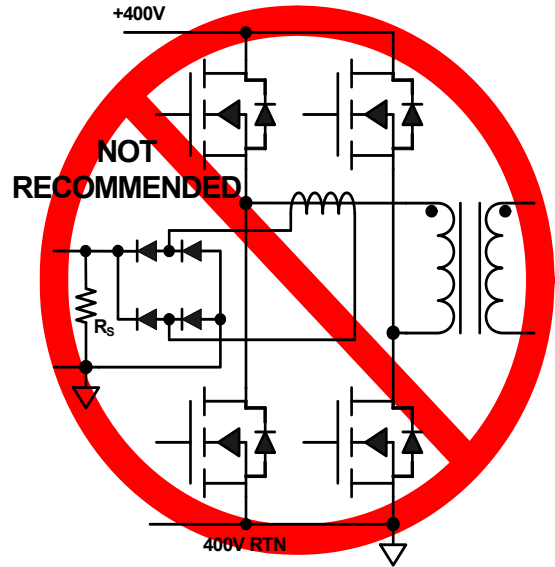
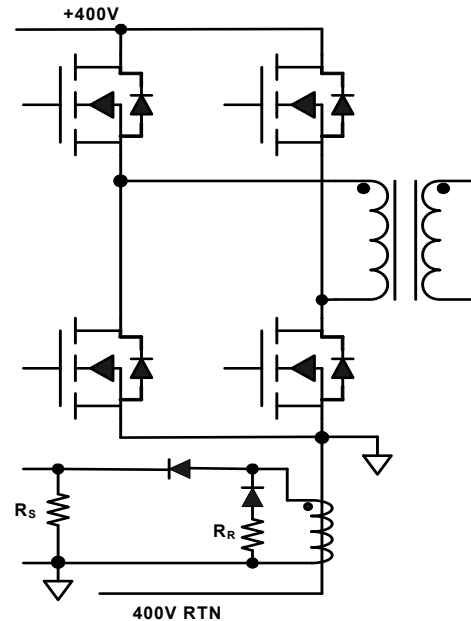
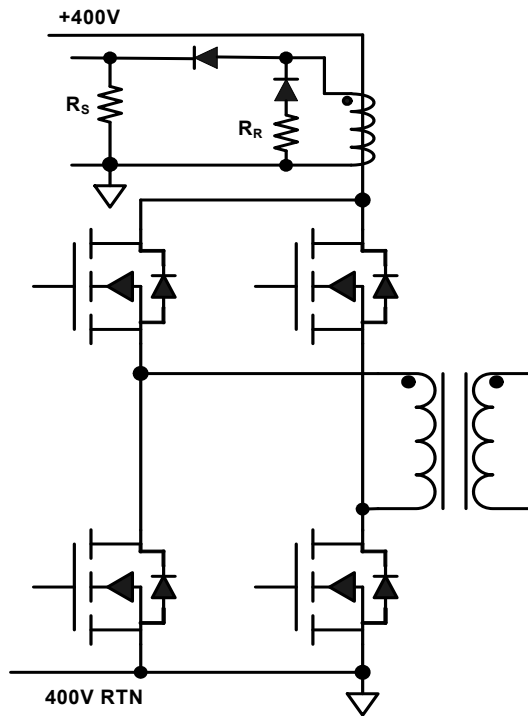

FIGURE 13. PRIMARY SIDE CURRENT SENSING CIRCUIT UTILIZING ONE CT
FIGURE 18. CURRENT SENSING TRANSFORMERS
FIGURE 19. CURRENT SENSING TRANSFORMERS IN THE COMMON DRAIN LEAD
Current flowing from the secondary to the primary can result with an unanticipated malfunction of the current sensing transformer circuit if reverse SR currents are not considered. Figure 13 is a commonly used primary side current sensing circuit utilizing one current sensing transformer (CT).
Figure 18 shows a different current sensing implementation that also solves the problem of Figure 13.
Notice in Figure 18 that the 400V RTN is slightly more negative than the signal ground. This is recommended for applications that directly drive the bottom FETs with MOSFET drivers. If the 400V RTN and the MOSFET drivers are grounded, regenerative feedback will be present on the output of the MOSFET drivers because of the presence of the CT windings in the gate drive loop.
A variation of the current sense circuit of Figure 18 is to place the current sensing transformer in the common drain lead of the two high side FETs, as shown in Figure 19.
The circuits of Figures 18 and 19 give exactly the same performance, but the problem associated with the gate drives (as explained in Figure 18) is avoided. The disadvantage of placing the CT at this location is that the CT must be designed with 400VDC operational insulation.